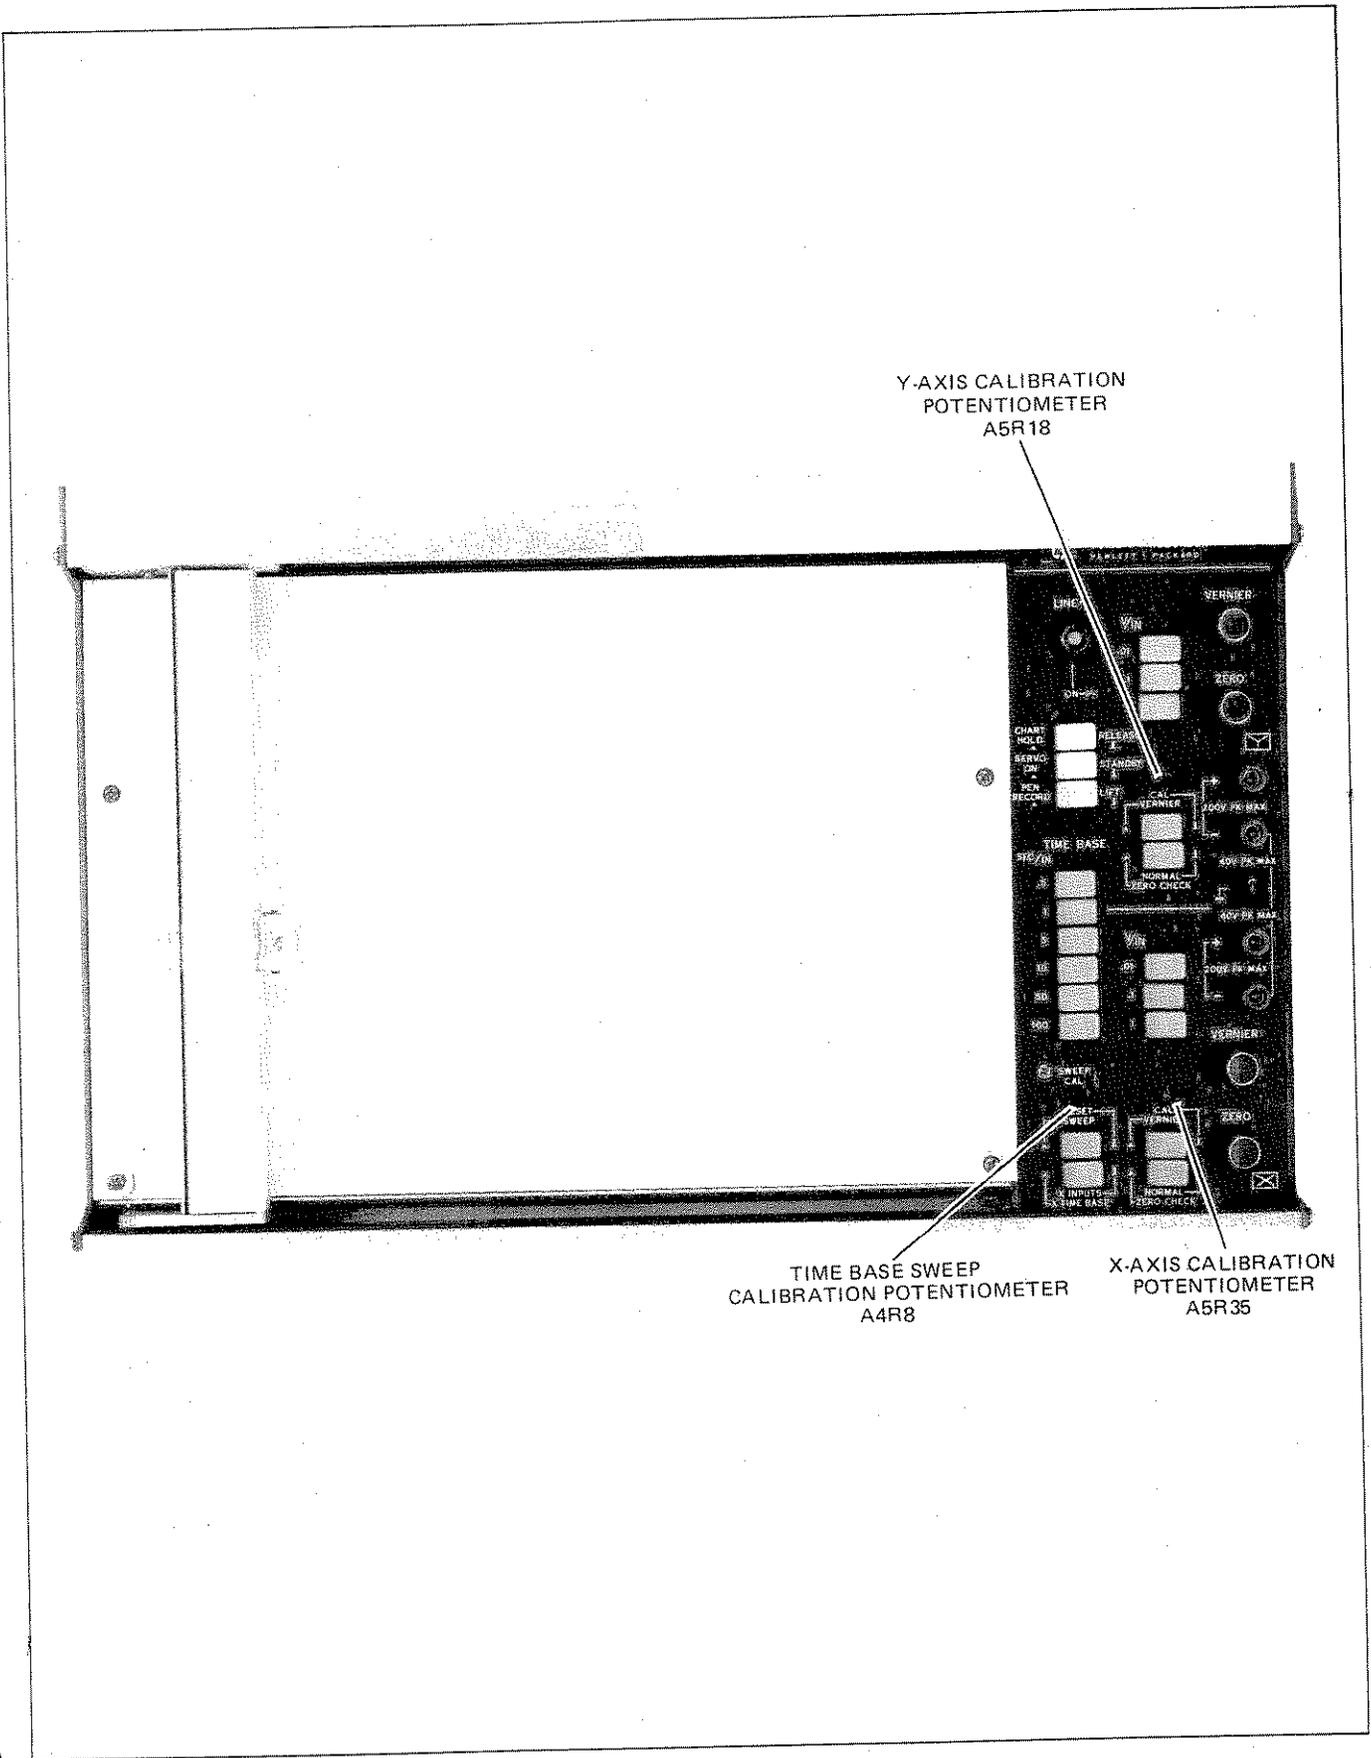

Figure 5-2. Front Panel Calibration Adjustments
g. If necessary to meet step f., adjust the X-axis calibration potentiometer A5R35 on the front panel. (See Figure 5-2.)
- h. If necessary to meet specification in step g., adjust Timebase Sweep Potentiometer A4R8 on front panel. (See Figure 5-2.)